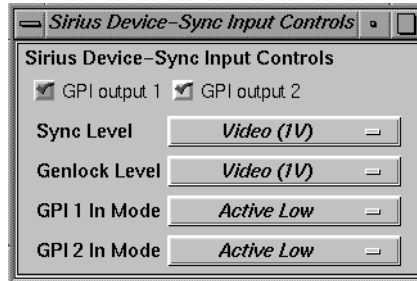

Figure 4-2 Device Synchronization Input Controls
- In the Pro menu (in the menu bar), select Device Controls; select Synchronization Controls. The Sirius Device-Sync Input Controls window appears, as shown in Figure 4-2.
- To set input to active low, select “Active Low” in the GPI 1 In Mode or GPI2 In Mode menu item of the Sync Input Controls menu, as shown in Figure 4-2.
- To set input to active high, select “Active High” in the GPI 1 In Mode or GPI2 In Mode menu item of the Sync Input Controls menu, as shown in Figure 4-2.